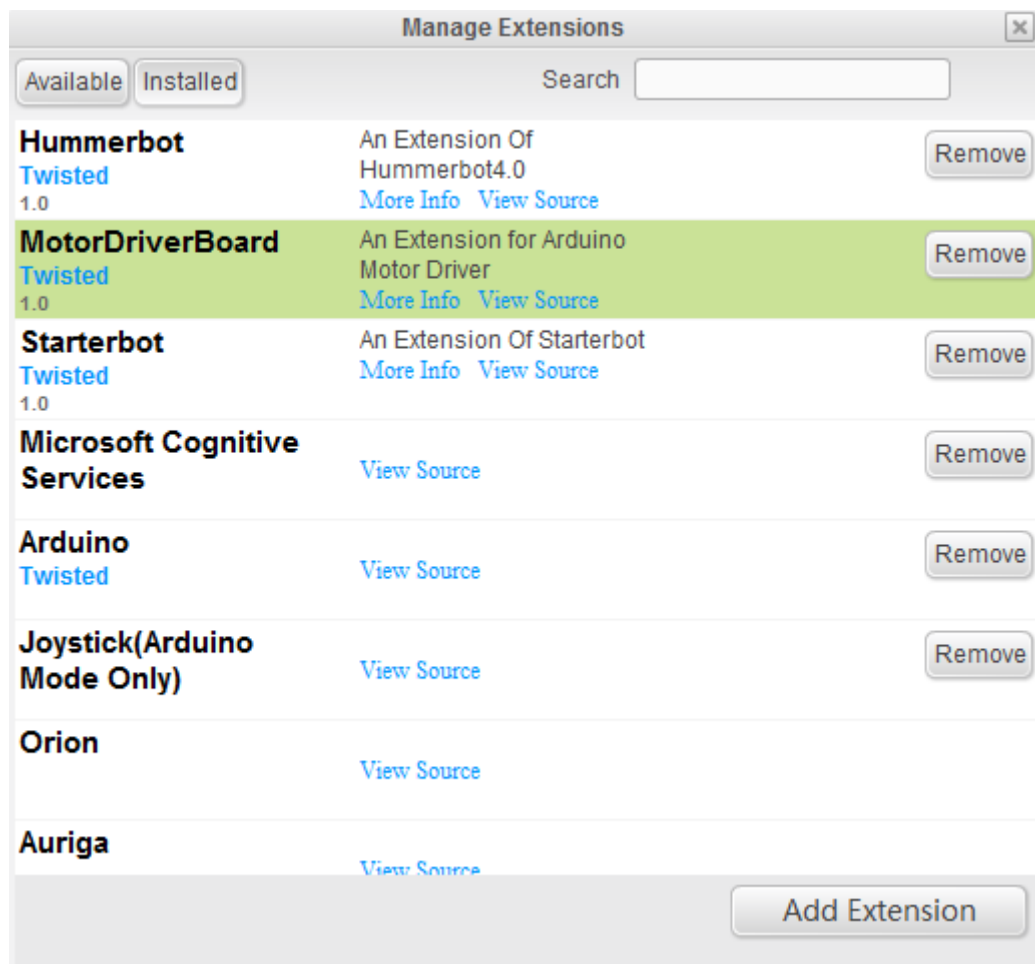

Figure 2-4
- 5) In "Extension Manager", click "Installed", and you will see that the MotorDriverBoard library has been successfully added, as shown in Figure 2-4;